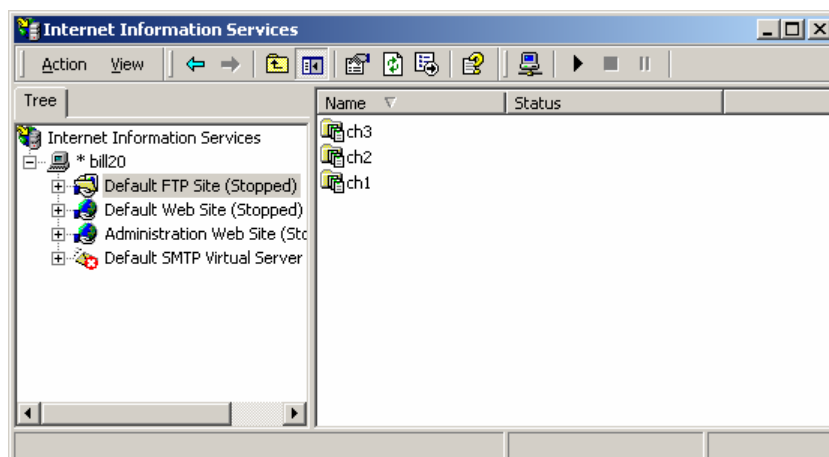

Figure 2-63 Starting FTP configuration window
- 1) Select [Start/Programs/Administrative Tools/Internet Service Manager]. See Figure 2-63.